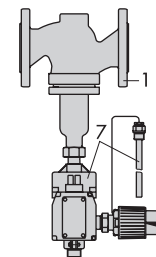
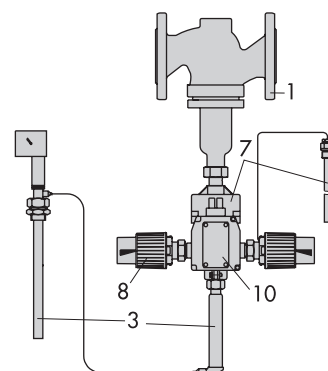

Fig. 10 · Temperature Regulator and Safety Temperature Limiter (TR/STL) with Control and Safety Thermostat Type 2114/2231/2212
Fig. 11 · Temperature Regulator, Safety Temperature Limiter and Pressure Limiter (TR/STL/PL), Type 2114/2231/2212/2401
The control thermostat, additionally attached to the safety thermostat, functions in the combinations TR/STL (Fig. 10) and TR/STL/PL (Fig. 11) as a temperature regulator (TR) and the pressure element (Type 2401) as a pressure limiter (PL).